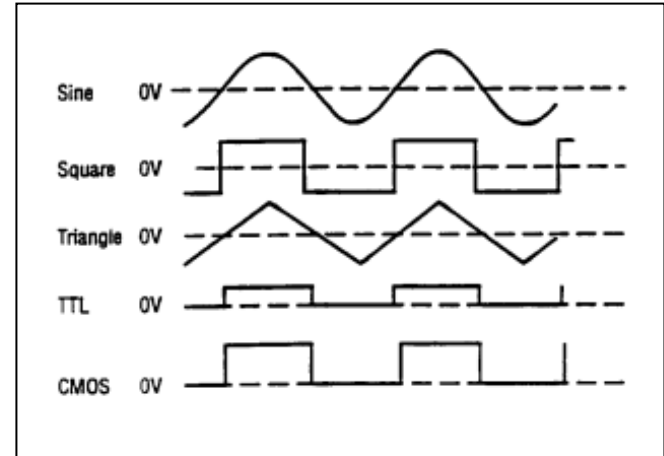

Figure 2. Output Waveform and Phase Relationship
1. Initially, verify that the **DUTY CYCLE** (14), **CMOS LEVEL** (13), **DC OFFSET** (12), **-20dB** (11) switches are in the OUT position (released). This will produce a symmetrical waveform unaffected by the other controls.
2. Plug the unit into an appropriate power source and turn it on by engaging the **POWER** switch (1).
3. Select the desired waveform (SINE, SQUARE, or TRIANGLE) by engaging one of the **FUNCTION** switches (3). Phase relationships of the waveforms are shown in Fig. 2.
4. Select the frequency of the waveform by engaging one of the **RANGE** switches (2). The output frequency is displayed, along with the appropriate measurement units, kHz or Hz (19), on the LED display.
5. Rotate the **COARSE** (16) frequency control to quickly set the output frequency to the approximate desired value. The **FINE** (15) frequency control can then be used to easily set the output to the specific desired value. The frequency selected is available at the **OUTPUT** jack (6). In addition, a digital signal, either TTL or CMOS is available at the **TTL/CMOS** jack (7) (refer to the "TTL/CMOS OUTPUT" section of this manual).